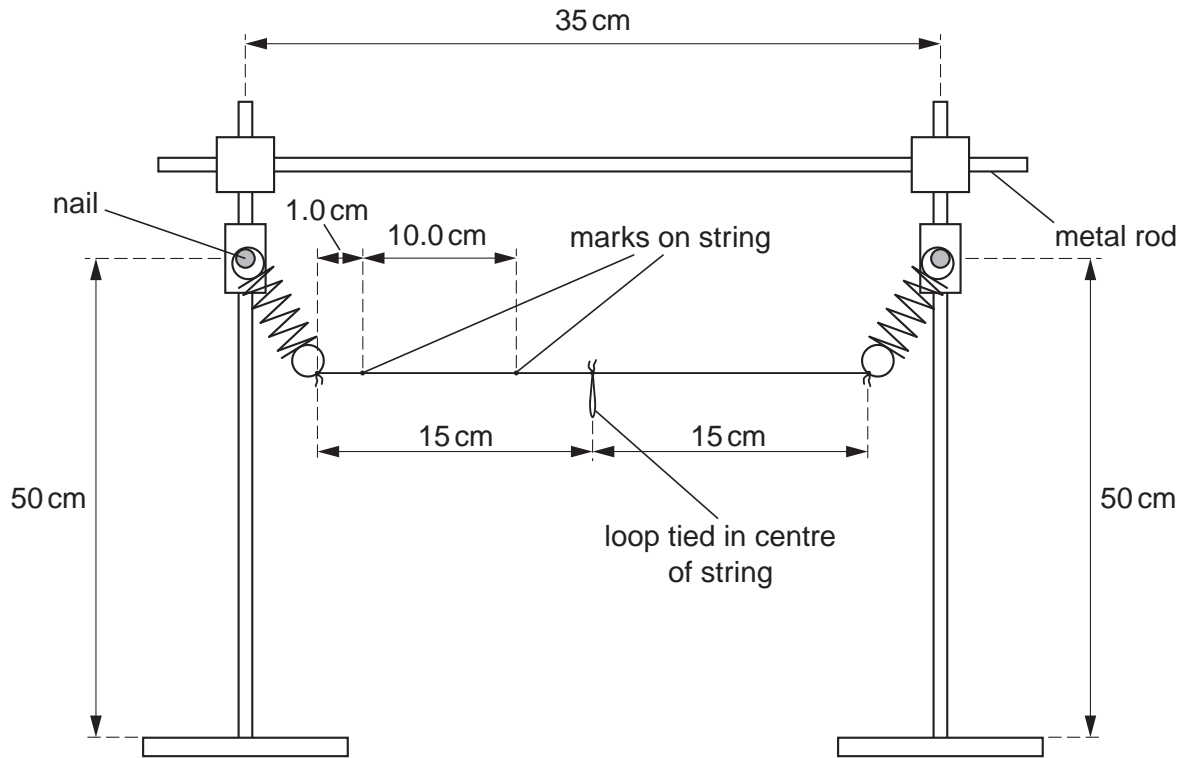

Fig. 1.1
- 1 Tie a spring onto each end of the string and then tie a loop in the centre, as shown in Fig. 1.1.
- 2 Assemble the apparatus as shown in Fig. 1.1.
Make two small, clear marks on the string in the positions shown in Fig. 1.1. (One way of doing this is to use a small dab of correction fluid).